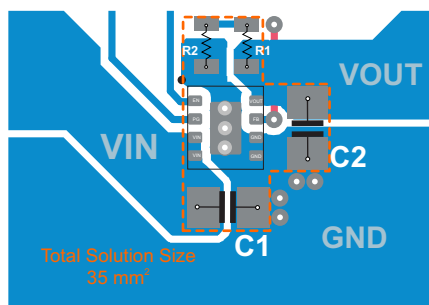

Figure 23. TPS82085 PCB Layout
- Refer to Figure 23 for an example of component placement, routing and thermal design.